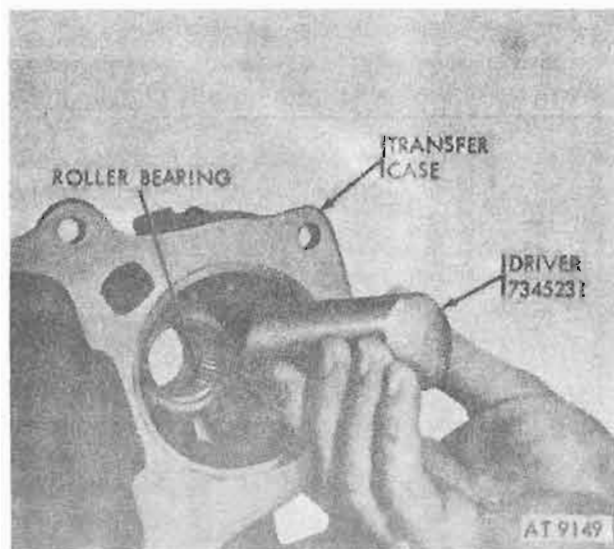

Figure 8-16. Output shaft roller bearing and driver 7345231.
p. Use driver (7345231) with arbor press or hammer to remove output shaft roller bearing from transfer case (fig. 8-16).